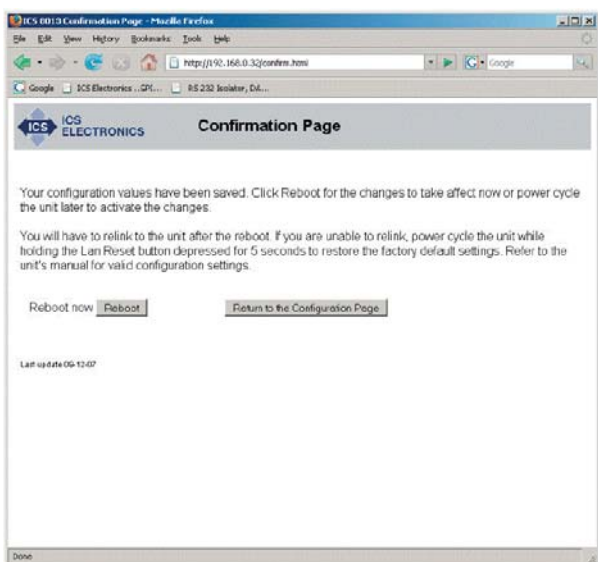

Figure 4-5 9006 Confirmation Page
7. Enter the new settings as desired. If you select DHCP for the TCP/IP Mode, the page blanks out the IP, Net and Gateway addresses as they will be supplied by your DHCP server. Check the entered values carefully as the unit’s webserver does minimal error checking. Press the ‘Update Flash’ button when done. A Confirmation Page similar to the one shown in Figure 4-5 will appear in your browser.